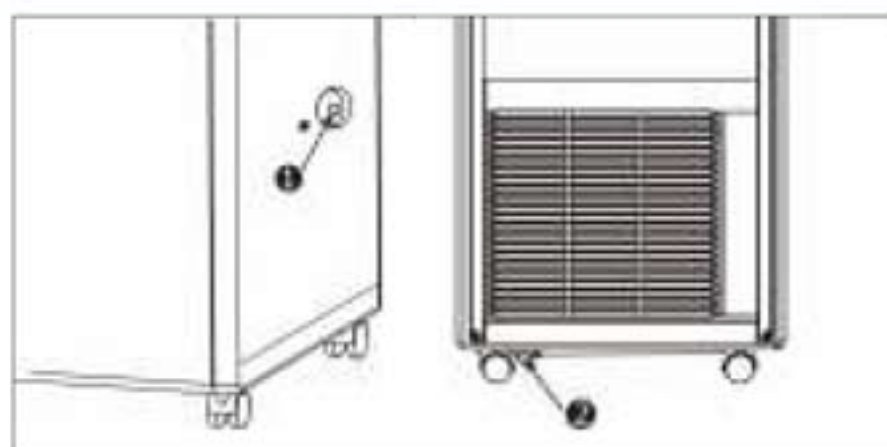

Fig. 10
1. When the unit is in cooling mode, it is not necessary to install the condensate drainage pipe since condensate evaporates automatically. Make sure that when the unit is operating, the rubber plug of the drainage hose is securely fixed (see Fig. 10).
2. In heating mode, remove the rubber plug (2) of the drainage hose (Fig. 10), install the respective drainage hose to improve heating efficiency.
3. In dehumidification mode, remove the rubber plug (2) of the drainage hose, install the respective drainage hose.
When the condensate collection tank is filled up, water needs to be drained, otherwise the unit will not operate. Condensate should be drained by opening the lower plug at the device's base (Fig. 10 pos. 2).
- A hole designed for continuous condensate removal in the center of the device (Fig. 10 pos. 1) can be used for continuous condensate removal under conditions of increased humidity inside a room. To do so it is also necessary to perform the abovementioned procedure.